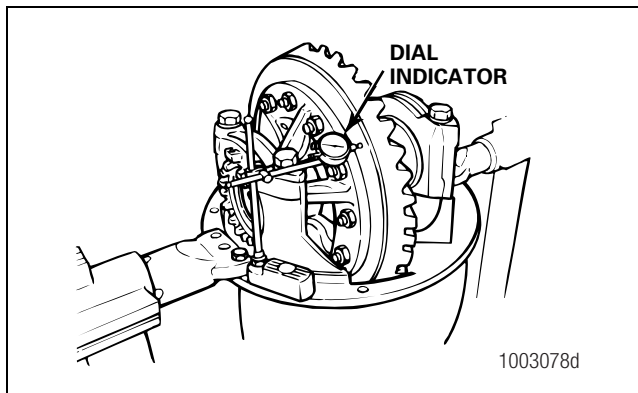

Figure 5.35
1. Attach a dial indicator onto the carrier mounting flange so that the plunger or the pointer is against the back surface of the ring gear. Figure 5.35.